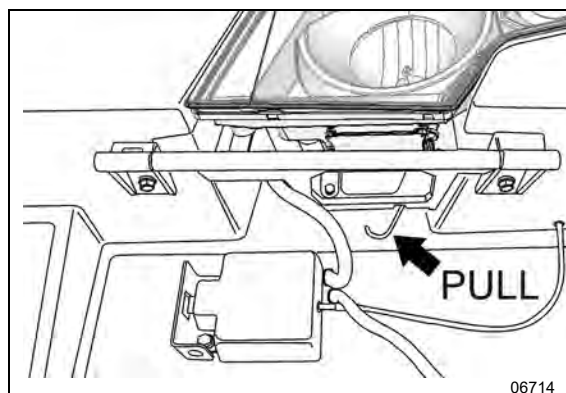

FIGURE 90: ROCKING THE HEADLAMPS ASSEMBLY
3. Pull on the rod shown on FIGURE 90 to pivot the headlamps assembly.